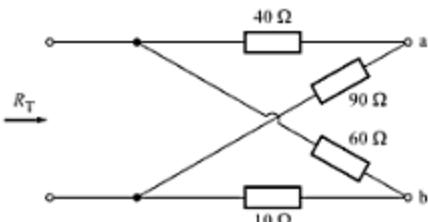

Fig. A-89
- A-51. In the circuit shown in Fig. A-89, find the total resistance  $R_T$  with the terminals  $a$  and  $b$  (a) open-circuited, and (b) short-circuited.